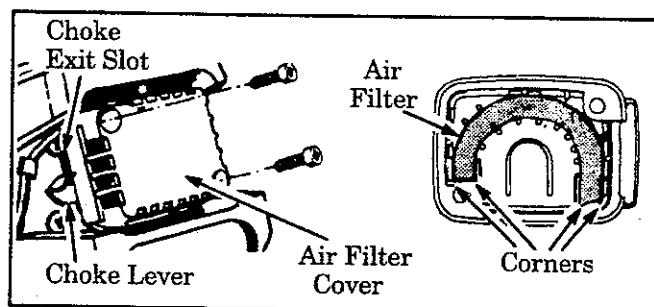

Figure 25
- e. Reinstall the air filter cover, making sure the choke exit slot is placed over the choke lever. Figure 25.